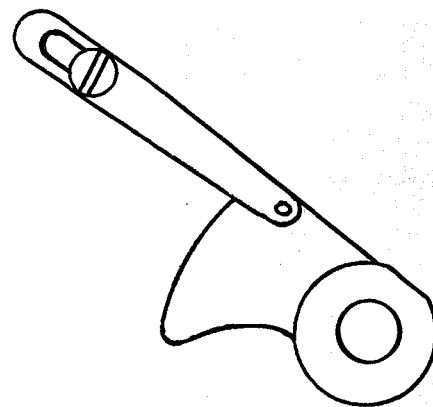

Fig. 21
surface of the looper thread take-up cam (B) when the needle is at the top of its stroke. Maintain this flush condition and set eyelet as far back as possible (Fig. 21). Pull several feet of thread through the looper to provide slack while checking the tension. Turn handwheel in operating direction until the needle is totally raised. Pulling the thread straight toward the operator, over the looper thread eyelet, adjust tension with the knurled nut (AA, Fig. 1) to 1 1/2 to 2 ounces.